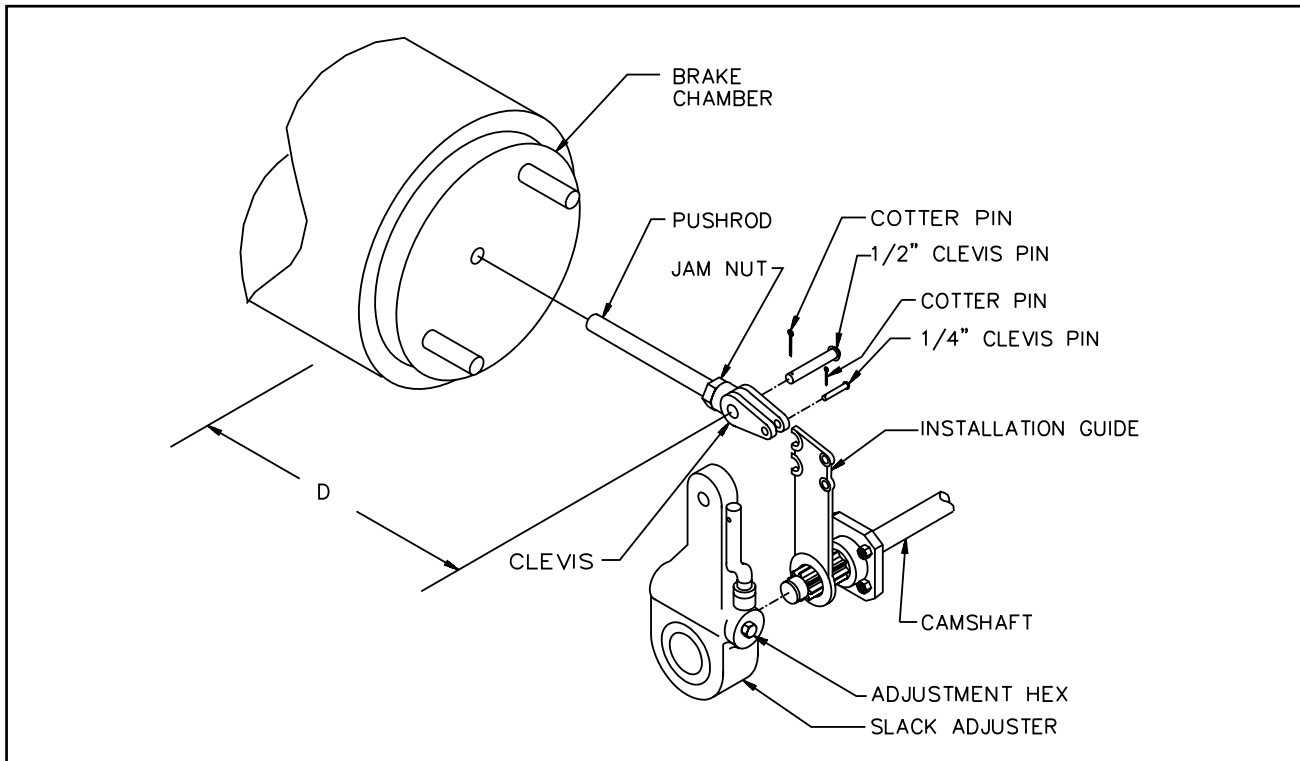

Figure 4-13 Slack Adjuster
4. Disconnect the slack adjuster from the connecting rod by removing the clevis pin (**See Figure 4-13**).
3. Remount the brake unit on the axle brackets and reconnect the air service hoses and the slack adjuster connecting rod (**See Figure 4-13**).
a. Operational Check (See Figure 4-13)
- b. Replacing Slack Adjuster (See Figure 4-13)
6. Measure the distance (D) from air chamber to 1/2" pin (**See Figure 4-13**). Apply brakes with 80-90 psi air pressure and remeasure distance (D) to 1/2" pins (**See Figure 4-13**).